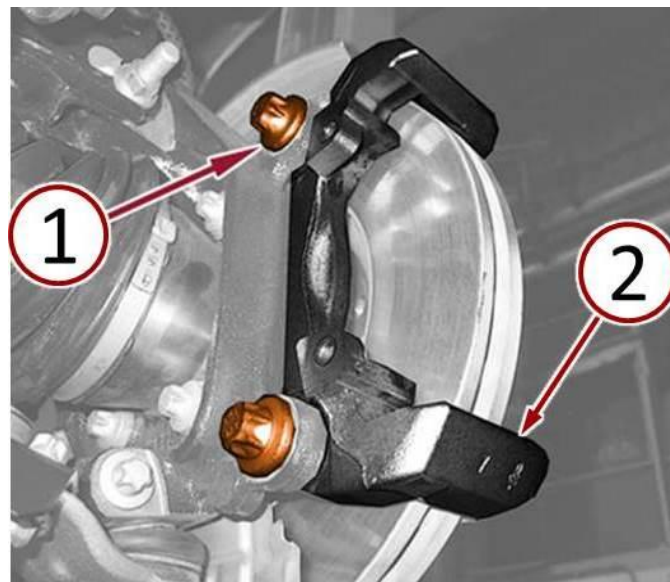

Fig. 7 Install Brake Caliper Adaptor Bracket
15. Install the brake caliper adaptor bracket (2) (Fig. 7).
16. Install the NEW brake caliper adaptor bolts (1) and tighten to 165 N·m (122 Ft. Lbs.) (Fig. 7).